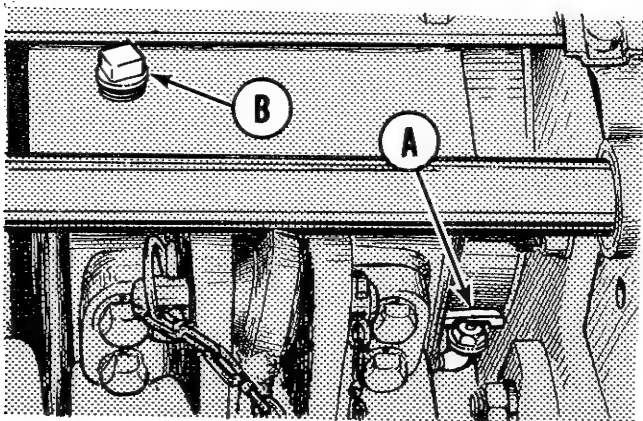

Figure 23. Transmission check cock and filler plug as seen from behind tractor.
See figure 23. The hydrostatic transmission, the tractor hydraulic system and the three speed gear transmission all use oil from the 3 speed transmission case. To check the oil level, turn the check cock (A) shown in figure 23 counter-clockwise two turns or until oil runs out. If no oil runs out of the open check cock, remove the oil filler plug (B) and add type A, type F, or Dexron automatic transmission oil until oil drips from the check cock. Tighten the check cock finger tight.